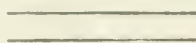

FIG. 3.
20. Parallel lines (Fig. 3) are those which are equally distant from each other at all points.